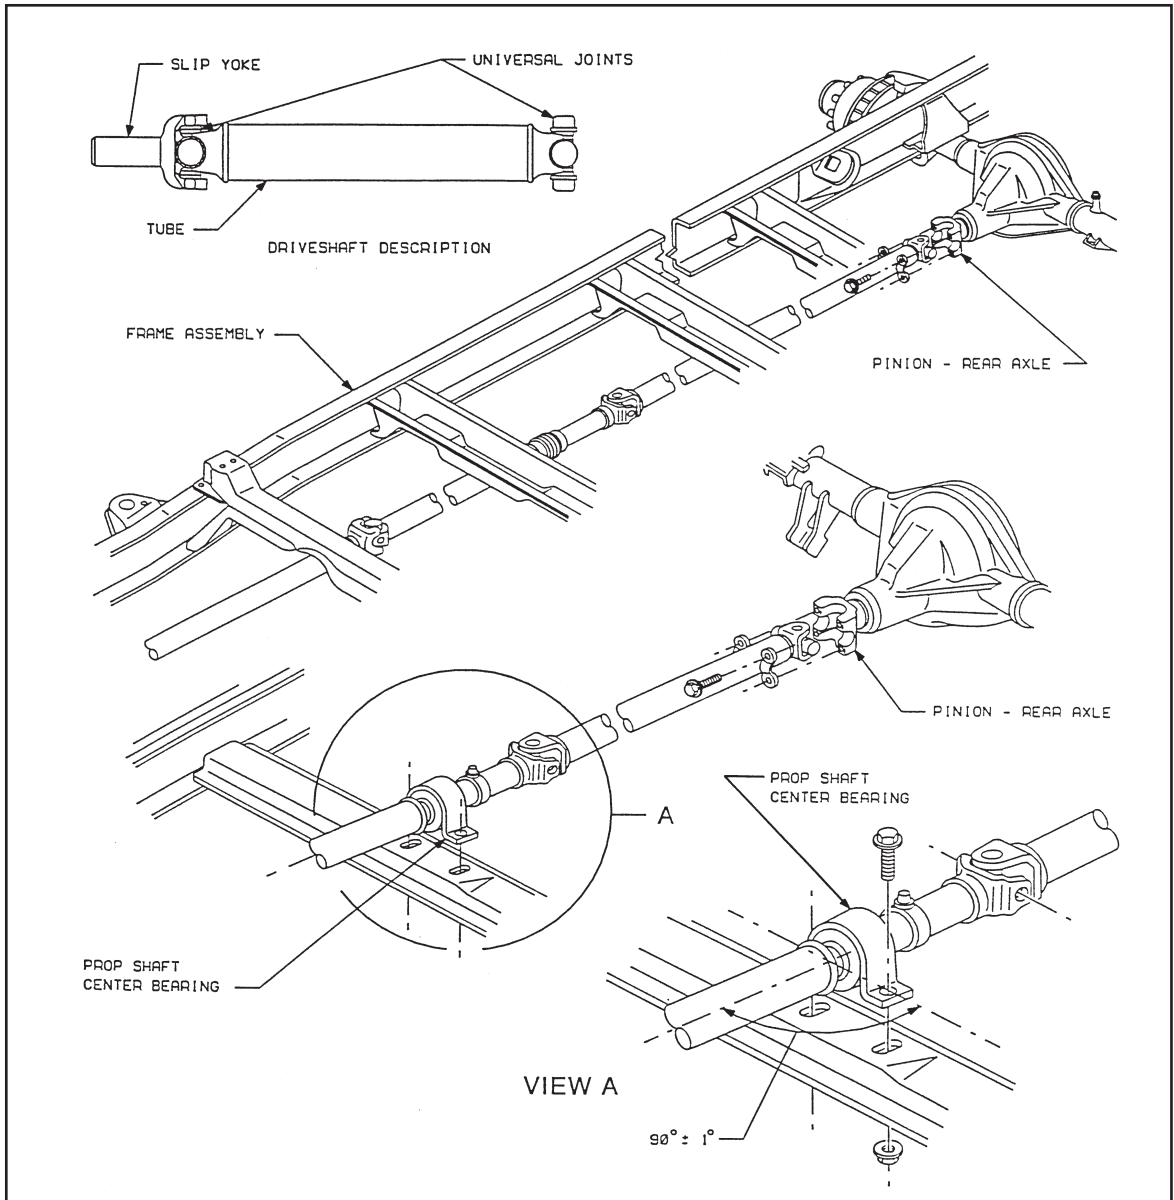

Figure 13
Welding is an excellent attachment or repair method. SVMs, however, must be very careful to use proper welding procedures. Inferior welds and improper methods can cause further frame damage and additional reinforcements may be required later to prevent the problem from recurring. Refer to the specifications table in Figure 13 for proper welding electrode identification and usage.
- Plug Welding** — Plug (or ring) welds are good for attaching reinforcements because they eliminate the possibility of loose-fitting bolts. Be careful, however, to properly place plug welds in different types of reinforcements. GM highly recommends E-7018 electrode for plug welding because of its good penetration and light coating. Use high range of electrode current and appropriate voltage for flat or vertical plug welds. Overhead plug welding is very difficult. Do not use this method unless other approaches are impractical. Then use high range for first pass and complete plug at medium range. Refer to plug weld table (Figure 13) for hole size to use for material thickness variations.
The most important objective is to design driveshaft extensions that efficiently transfer power from the transmission to the rear axle assembly (Figure 13). For higher durability and reliability, General Motors recommends using only graphite driveshafts manufactured with driveline tubing.